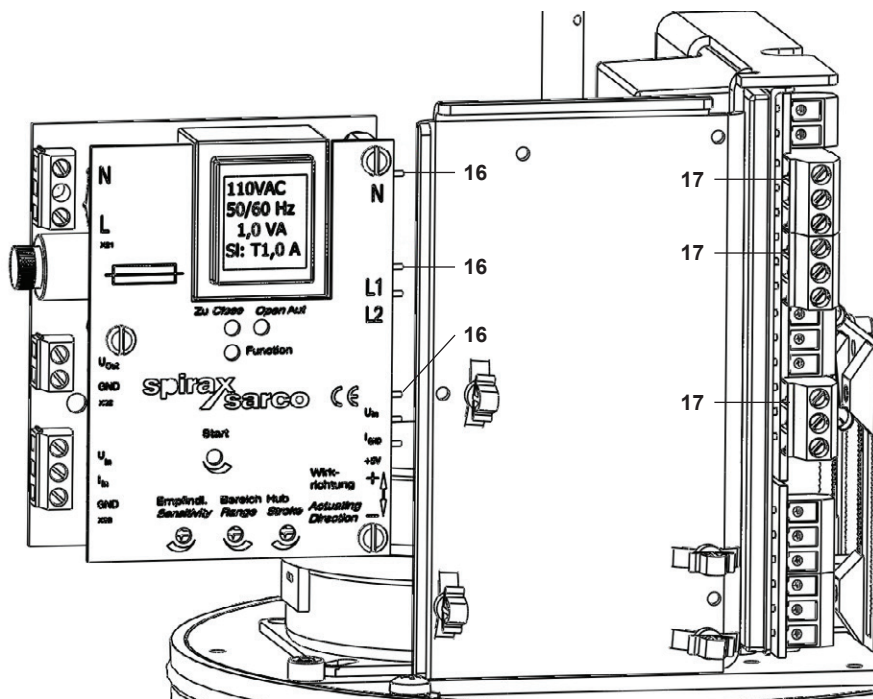

Fig. 10
3.4 Fitting the positioner card (Figure 10)